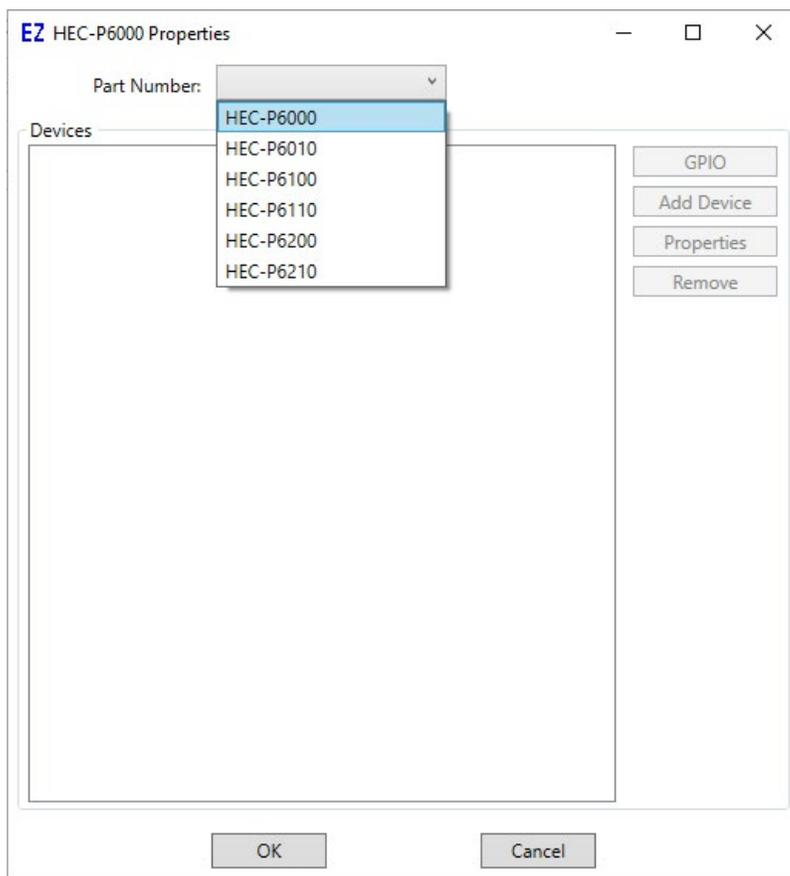

Figure 1.2 - HEC-P6000 Properties Window
3. Using the Drop-down Part Number select box, select the model of the HEC-P6XXX. Refer to Figure 1.2. With the model selected, the Devices pane will update with the currently selected features for the HEC-P6XXX. The **ADD DEVICE** button is used to install and configure additional features (from those shown above) such as Ports, Real Time Clock, etc. For this example, we will not add additional features at this time. These features may be installed and configured by re-visiting this window.